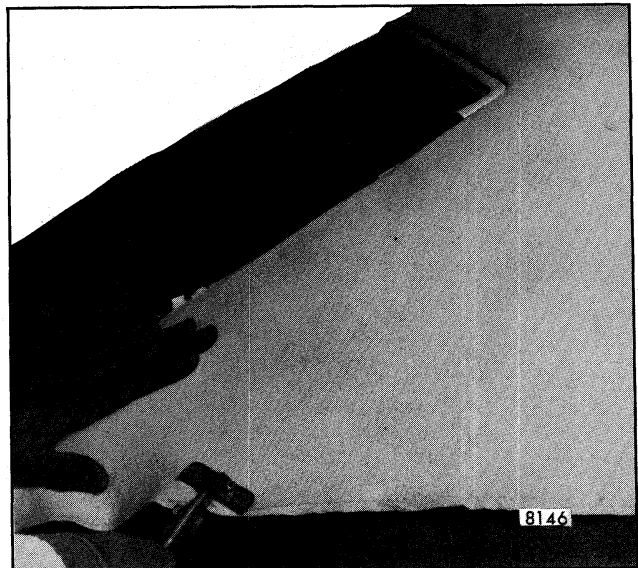

Fig. 8-56-Cementing Fabric Roof Cover to Roof Panel
10. Allow adhesive to become tacky; then hand stretch and "slick" cover in place. Fabric roof cover pliers or an equivalent tool may be used in aiding removal of wrinkles as shown in Figure 8-56.